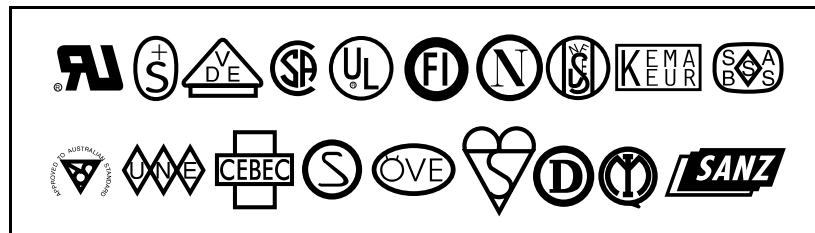

Figure 18. International Safety Organization Certifications
- The AC power plug and IEC 320 connector should bear the certification mark of at least one of the known international safety organizations shown in Figure 18.
The print engine uses a metric-style fuse (5 × 20 mm IEC) rated for 5 Amps at 250 Volts that bears the certification mark of a known international safety organization (see Figure 18).